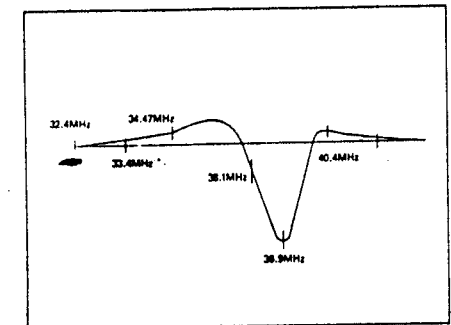

Fig. 17 AFT Adjustment
- 2) Adjust the AFT (FL404) in the Tuner unit shown in Fig. 17